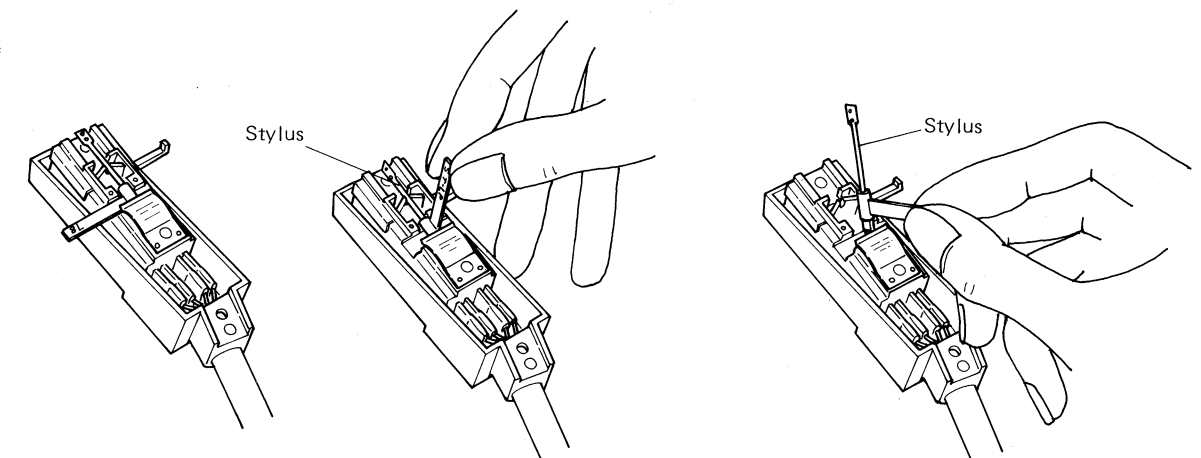

Fig. 21 REPLACING STYLUS
2. Gently remove Stylus and place new Stylus in to correct position as shown in Fig. 21.